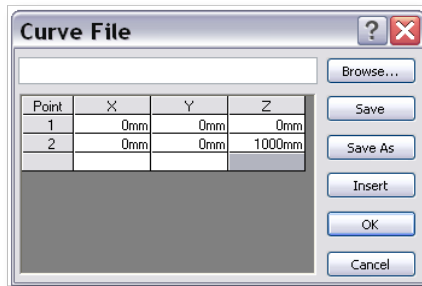

Figure 4: Manually Entering a Curve.
- Now we will define a line along which the aerofoil will be twisted. Insert → Curve → Curve Through XYZ Points. Previously we have read in file here we will define the points manually. Define points at 0,0,0 and 0,0,1000 respectively. This is shown in Figure 4.